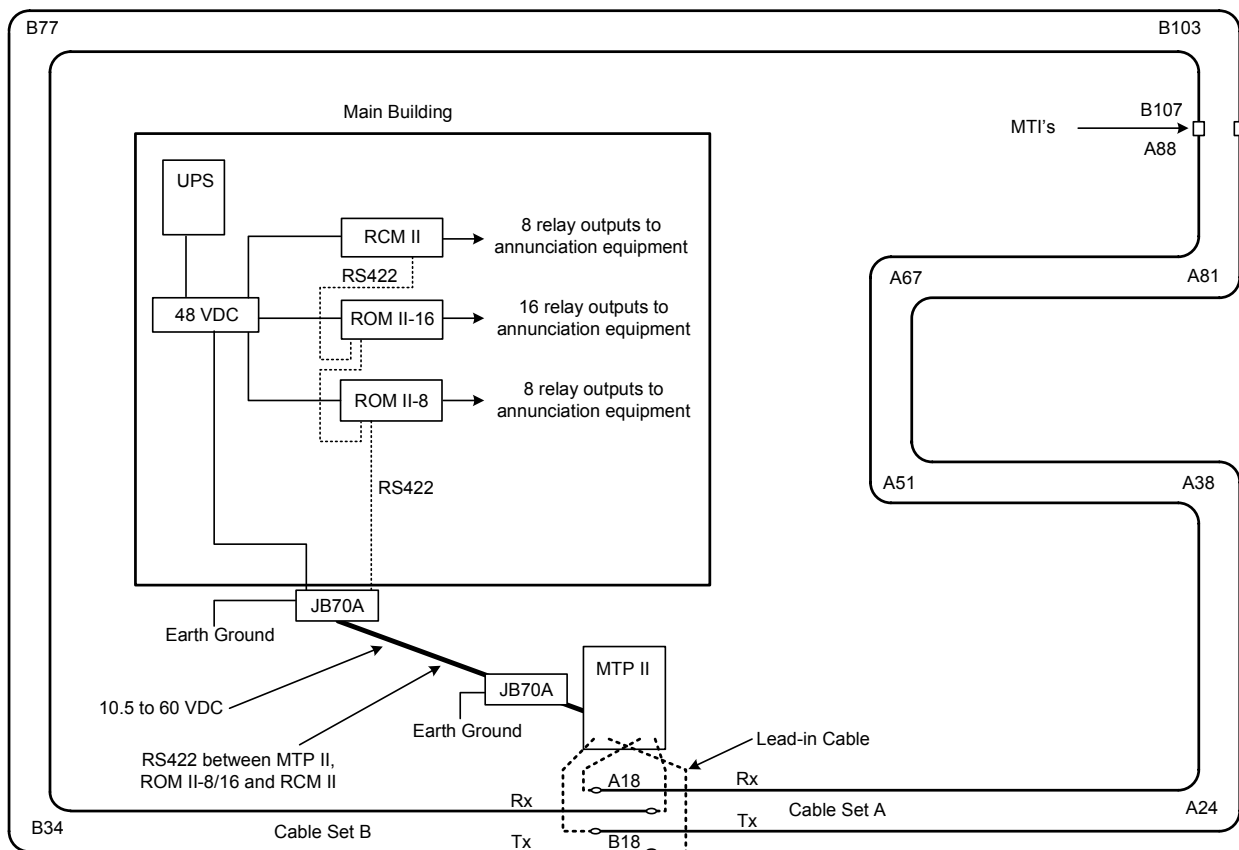

Figure 4.1 - Example of a Fully Configured Stand Alone MicroTrack II System
Figure 4.1 shows a fully-configured single MicroTrack Processor II (MTP II) with two cable sets, marked “Cable A” and “Cable B”, forming a closed loop around a building. The two cable sets are overlapped at the MTP where the detection field’s first form and they are joined at the MTI’s where the detection fields are diminished. This provides a continuous, closed detection field around the entire perimeter. The corners are marked with references such as B77, or A81. This refers to the position along the cable. For example, A81 means “Cable A, cell 81”. Since each cell is a separate, adjustable zone that is only approximately 6.9 feet (2.1 meters) long, it allows for easy software zoning and full control of the perimeter. *Note that Cable A and Cable B transmit and receive cables are in line with each other. They can not be installed transmit to receive.*
There is one (1) Relay Control Module II (RCM II) attached that will be the controller (poll master) to monitor alarms from the MTP II and provide relay outputs and two (2) Relay Output Module II (ROM II) devices for relay outputs to annunciating equipment. If an alarm is detected, the appropriate output relay(s) will respond as programmed. The MTP II will report each cell independently to the RCM II, which allows the RCM II to be programmed with any zoning required, up to 32 zones. A typical example from Figure 4.1 is to assign zone 1 to be Cable A from cell 18 to 24 (shown as A18 – A24 in the drawing) and assign this zone to RCM II- relay output 1. A PC running an alarm monitoring program such as the Perimeter Security Manager or the GCM II can be substituted for the RCM II for graphic alarm annunciation.
If a PC with a GUI interface to the MicroTrack™ II Customer Development Document is to be used, such as Perimeter Security Manager or the GCM II, the RCM II can not be used as shown in Figures 4.1 or 4.2. Only one (1) “Poll Master” can be connected to the system. This PC would be connected to the RS422 communications line. A RS422 to RS232 data converter may be required or a RS422 expander board installed in the PC.